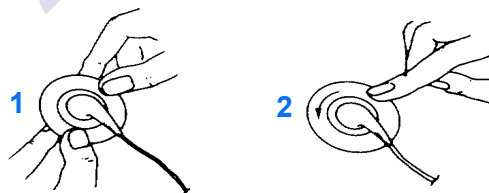

Figure 3-1: Electrode application
- Always attach the electrode to its leadwire before applying the electrode to the patient (refer to Figure 3-1). Do not apply pressure directly over the electrode's gel column.